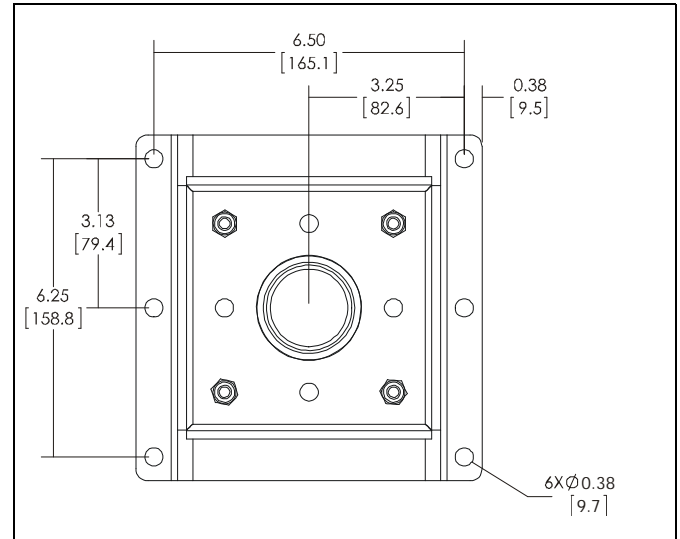

Figure 2
- Use 3/8" x 2-1/2" (minimum) Grade 2 lag screws (not provided) to secure CMA mount to the joists or wood framework, using the bolt holes noted. (See Figure 2)
- Insert the rods into the four bolt holes in the CMA mount. (See Figure 2)
- Use four Ux10 anchors (not provided) to secure CMA mount into solid concrete ceiling. (See Figure 2)